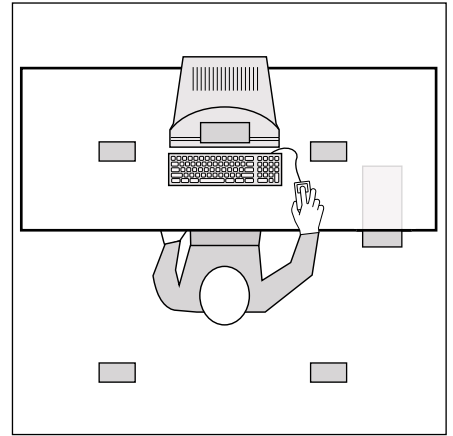

Figure 7
1. **On top of your video monitor.** Use the adjustable sliding Easel Stand [figure 7] on the back of the Center Speaker to compensate for the shape of your monitor. Depress the lever on the sliding easel to aim the speaker driver toward your listening position. If your monitor has a small flat area on top and you want to adhere the speaker to the monitor, use the supplied double-stick pads.